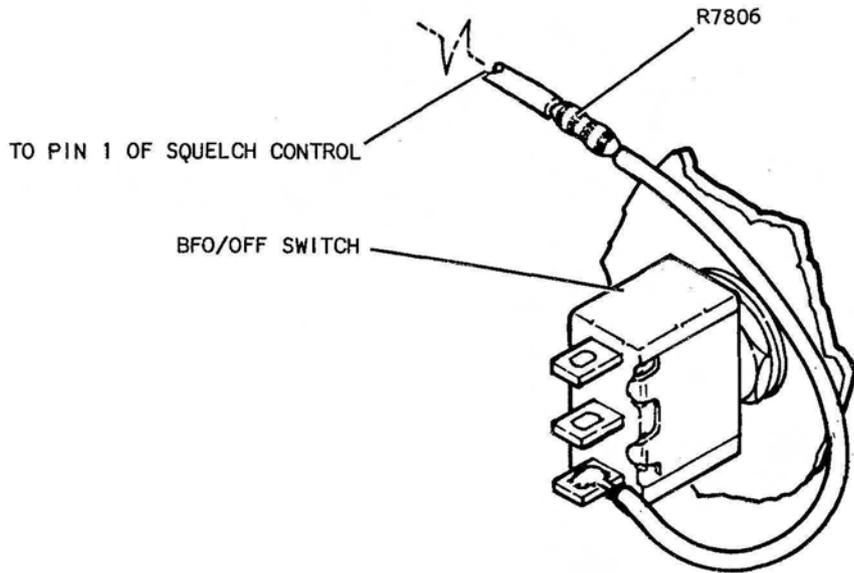

Figure 6-12 BFO/OFF Switch Installation
G. BF0/OFF Switch (10) by attaching:
1. Lock washer and switch (10) at rear of panel (72); flat washer and hex nut at front of panel (72).
2. Insure that switch is installed as shown in Figure 6-12 before soldering wires.